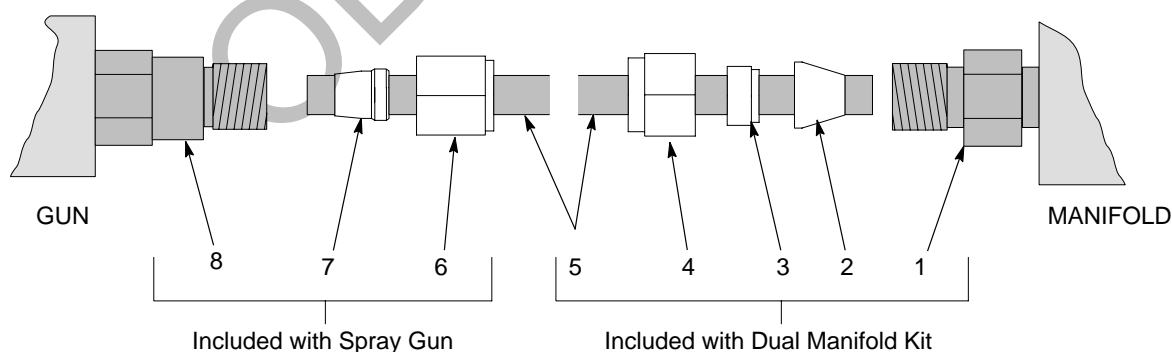

Figure 6 Dual Manifold Tubing Installation
Refer to Figure 6 for tubing connections.
1. See Figure 6. Remove the nut (4) and two piece ferrule (2, 3) from the end of the manifold connector (1).
2. Slide the nut (4) onto the end of the tube (5) followed by the shoulder (3) and cone (2). Make sure the tapered end of the cone is pointing towards the end of the tubing.
1. See Figure 6. Remove the nut (6) and ferrule (7) from the spray gun adapter (8). Slip the nut and ferrule onto the end of the tubing as shown. Make sure the tapered end of the ferrule is pointing towards the tube end.
2. Insert the end of the tubing into the adapter (8) until it bottoms out.